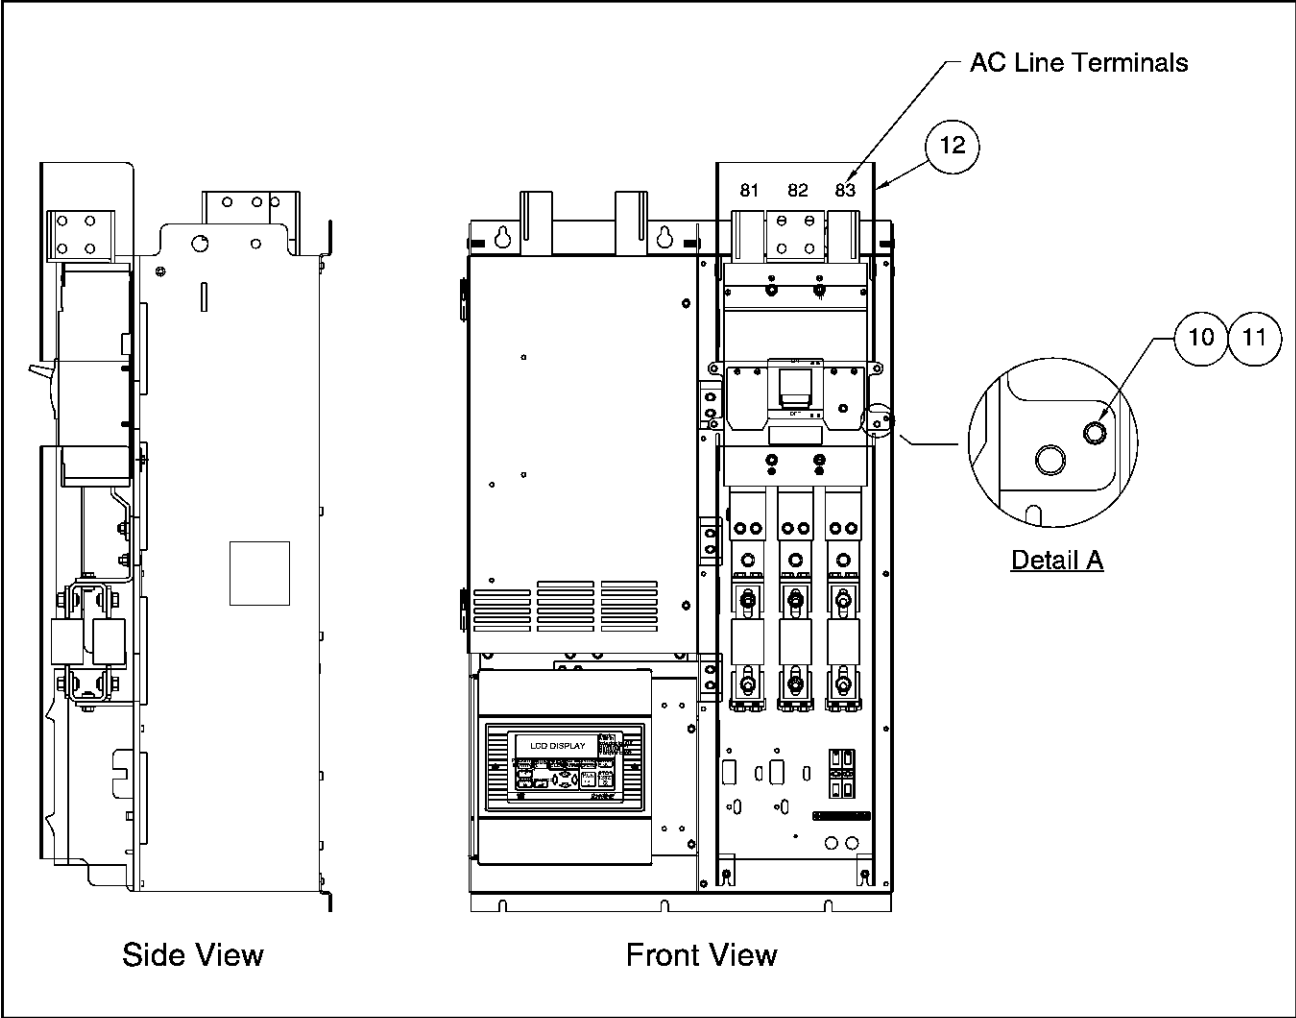

Figure 4 – AC Disconnect Installed with AC Line Terminals and AC Line Cover Re-installed
- Step 16. Install the Phillips screw and lock washer [Items 10 and 11] in the place the screw was removed in step 6. See figure 4, Detail A. Tighten to 2.8 Nm (25 in-lb). This establishes a ground connection.
Step 34. Install the clear plastic AC line input cover [Item 12] by inserting its feet into the slots on the mounting panel. Squeeze in slightly to seat the upper feet. After inserting, pull down to secure this cover in place. See figure 4.